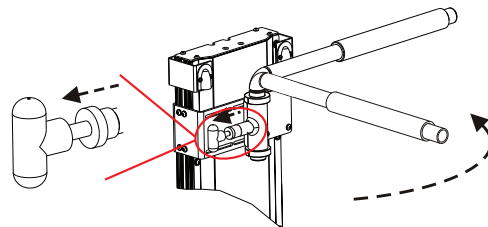

Figure 3-16
4. If the lift is equipped with the optional hold-down arm, the hold-down arm may need to be rotated out of the way. Pull the T-handle and rotate the hold-down arm. Release the T-handle to lock in place. *See Figure 3-16.*